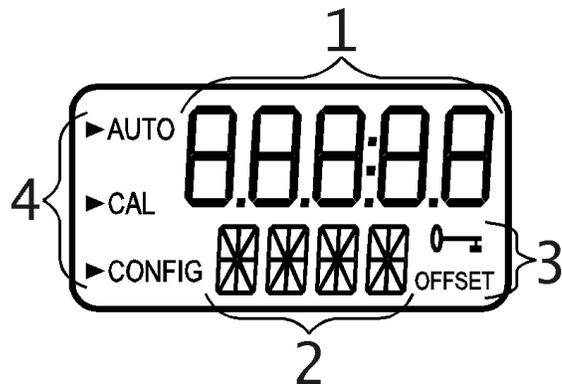

Figure 1 – Display used in the instrument
Figure 1 illustrates all the items that can appear on the display. The upper row of the display (1) is used for reporting the chlorine levels and to provide user guidance in the customer setting routine. The lower row of the display (2) is used to communicate error messages (message queue) and provide user guidance. The display has two icons (3) that are used to indicate the use of access code and offset mode. In addition, mode arrows (4) are used to indicate the current instrument operating mode; AUTO (normal operation), CAL (calibration) and CONFIG (configuration).